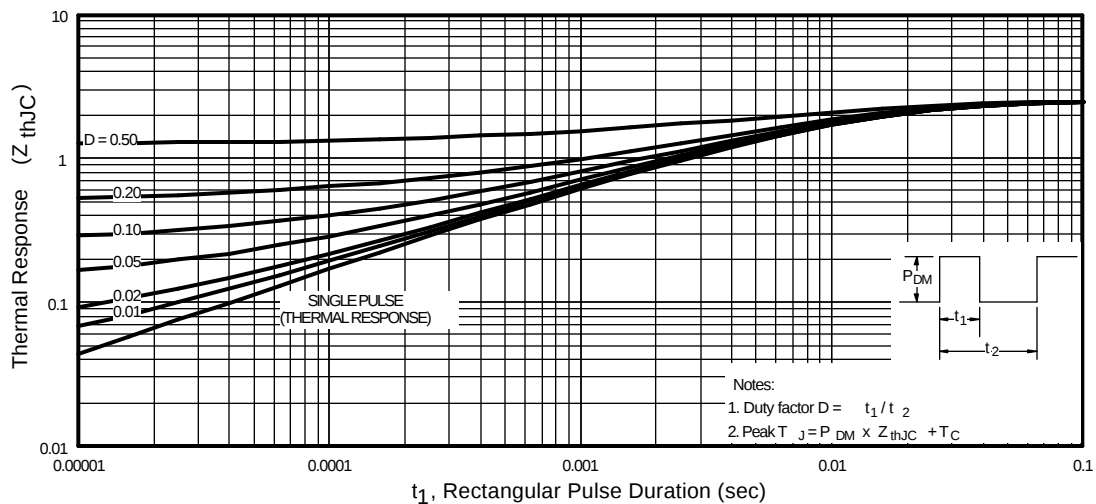

Fig 11. Maximum Effective Transient Thermal Impedance, Junction-to-Case
① Repetitive rating; pulse width limited by max. junction temperature. (See fig. 11)
② Starting $T_J = 25^\circ\text{C}$, $L = 27\text{ mH}$